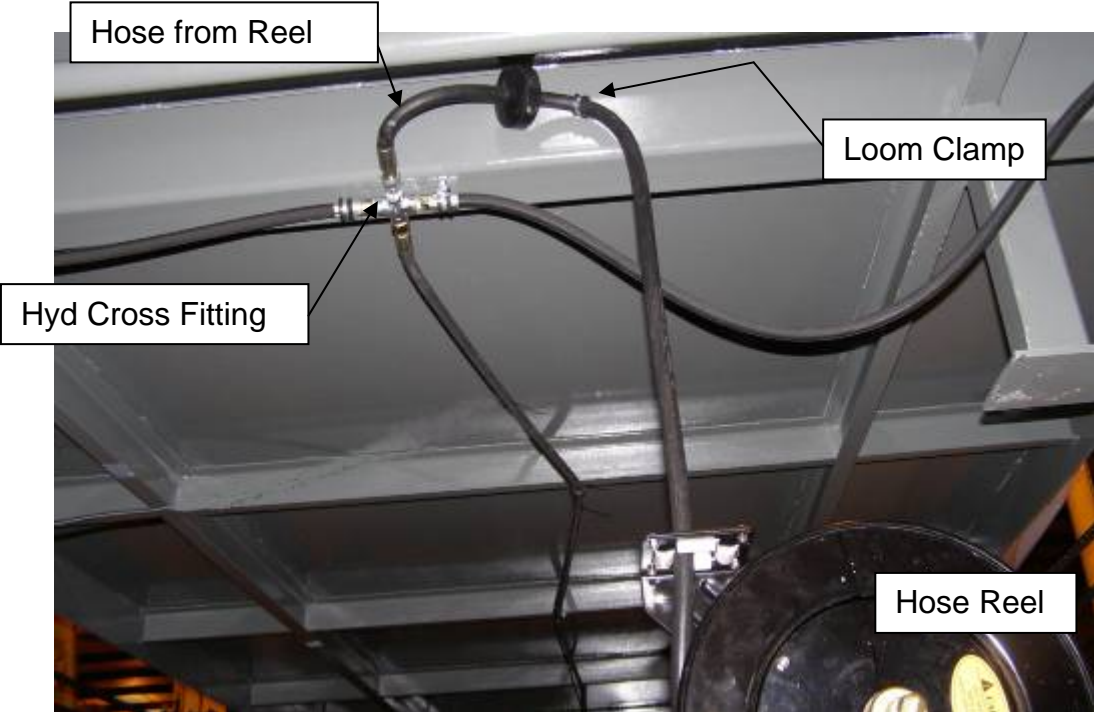

Figure 31 Hosing Between Reel and Hydraulic Cross
4. Pull hose from the hose reel and connect to the pipe cross fitting beneath the lower deck as shown in **Figure 31** with a loom clamp to hold this hose in an orientation which prevents kinking or crimping during lift operation.